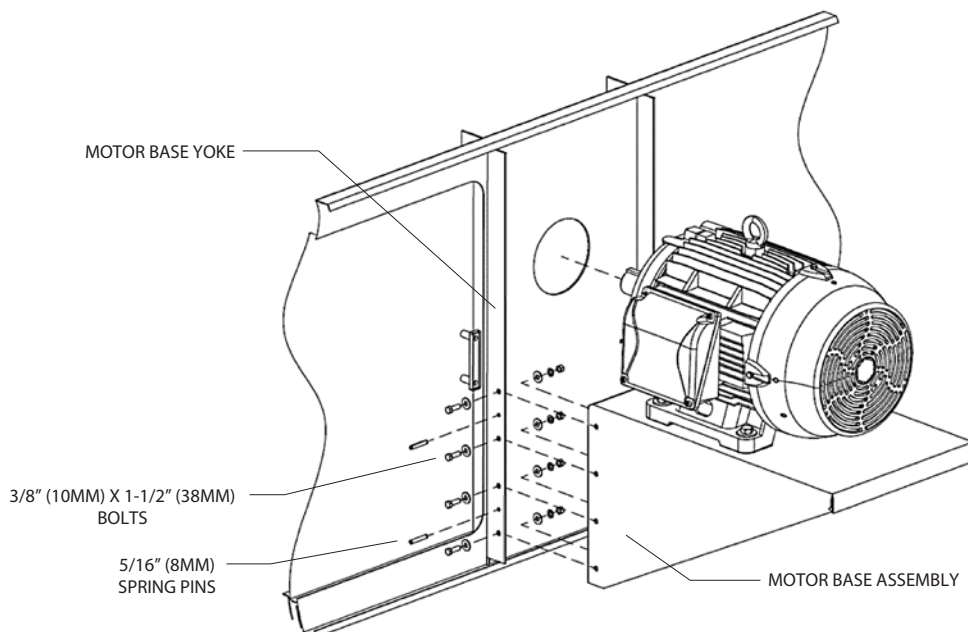

Figure 21 - External Motor Installation for Gear Drive Applications
1. Mount the motor base assembly to the motor base yoke using (4)* 3/8" (10mm) x 1-1/2" (38mm) grade 5 bolts on each side of the motor base assembly. Do not fasten any hardware until step 2 is complete.
2. In addition to the grade 5 bolts, install (2) 5/16" (8mm) spring pins on each side of the motor base assembly as shown in Figure 21.